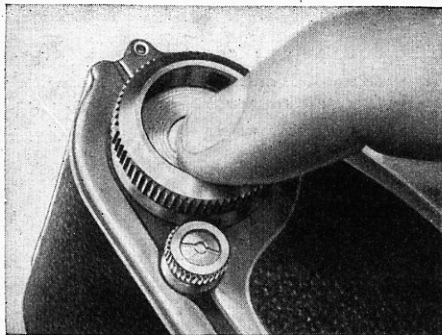

Fig. 37
Film rewinding is performed as follows: Hold the camera with your left hand and press down the stud (7) during the whole rewinding process. With your right index finger, press in the centre part (38) of the film rewinding knob (37) as far as it will go (Fig. 37). Now the fork of the film rewinding knob catches the bar of the film spool, and by even rotation of the rewinding knob (Fig. 38) the film is rewound into the original cartridge. A sure sign that the film is being rewound correctly is the rotating of the control disk (19) and of the axle of the receiving spool, around which the film transport lever (6) swings (Fig. 39). During the rewind operation, the axle of the receiving spool, with the big screw slit, rotates in the opposite direction of the movement of the film transport lever (6). Once the film is rewound, the rewinding axle no longer rotates. As soon as the stud (7) has sprung back to its neutral position, the